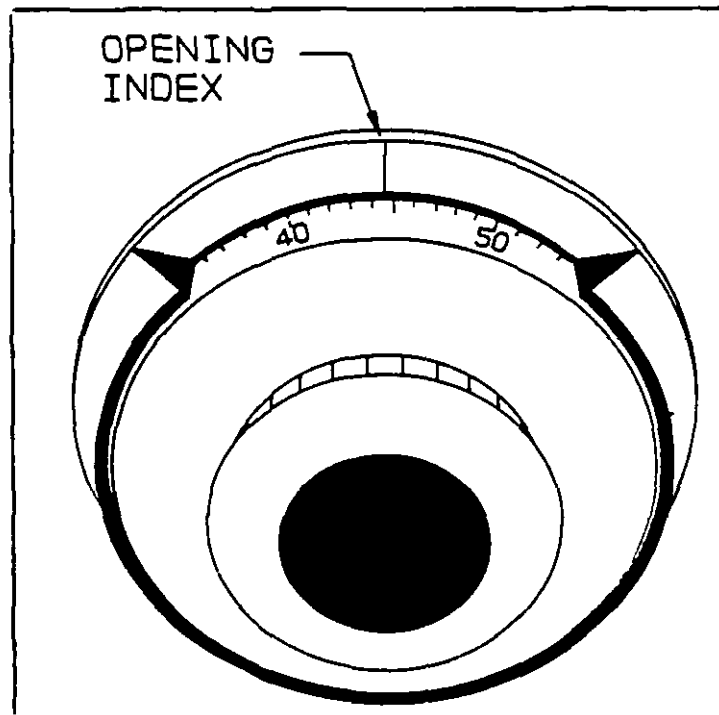

Figure 36
4.2.1 MR 302-402. The Mosler MR 302-402 Groups 1 and 1R combination locks have a unique manipulation-resistant cam mechanism. Two audible impulses can be heard when the dial is turned past the 0 area. The purpose of this design feature is to defeat manipulation by the use of audio instruments. The difference between the MR 302 and the MR 402 is that the 302 has three wheels and a three-number combination, whereas the 402 has four wheels and a four-number combination. There is no dial torque adjustment on these locks. Dial resistance is held within the allowable range (MIL-L-15596 Series) by the friction plug and spring. The MR 302 is illustrated in Figures 36 and 37.